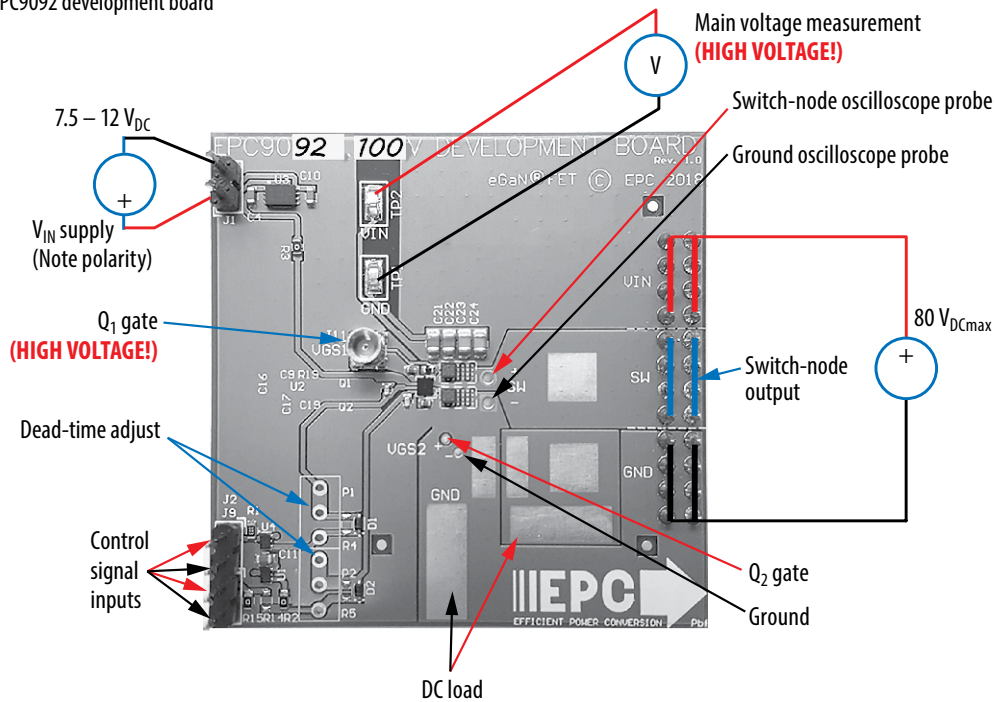

Figure 2: Proper connection and measurement setup
Development board EPC9092 is easy to set up to evaluate the performance of two EPC2052 eGaN FETs. Refer to figure 2 for proper connect and measurement setup and follow the procedure below:
2. With power off, connect the switch node (SW) of the half bridge OUT (J3, J4) to your circuit as required (half bridge configuration). The EPC9092 features an optional buck converter configuration, as shown in figure 2, with unpopulated footprints for an output inductor and output capacitors.